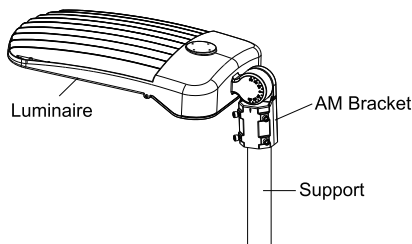

Figure 10
Step 2: Place the bracket into the pole and lock the four bolts. (Figure 10)